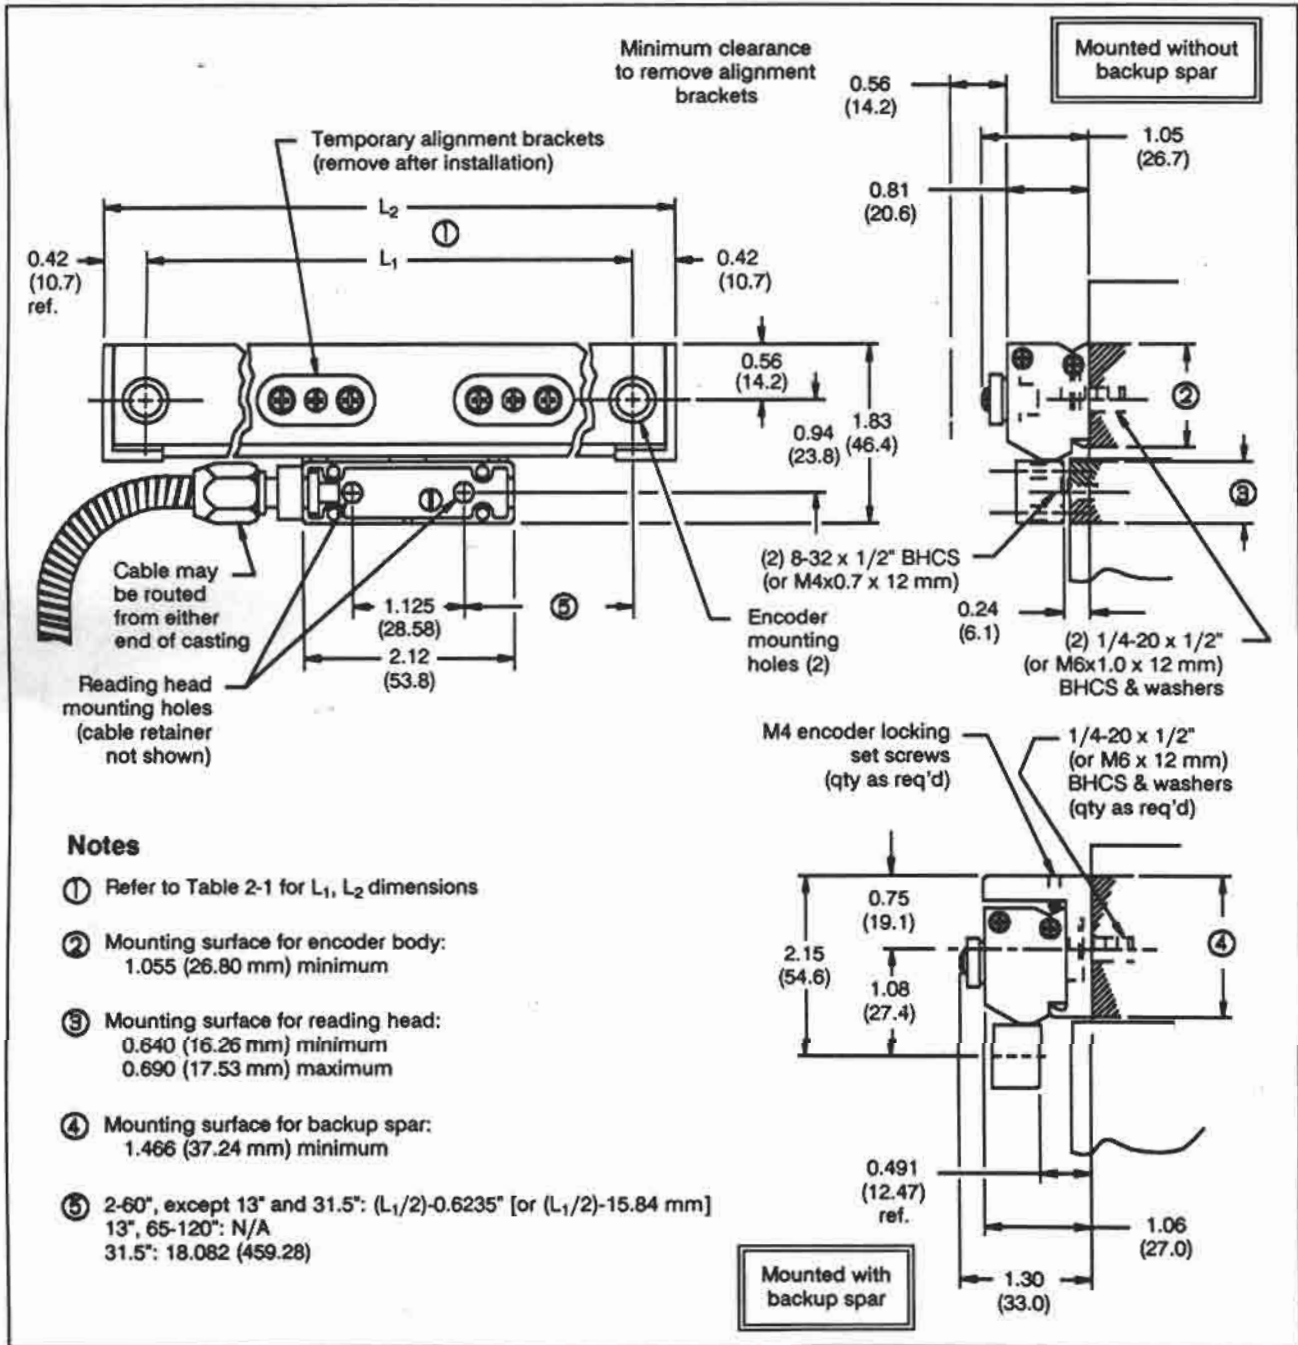

Figure 2-8. Mini-Scale or Mate System linear encoder assembly dimensions and mounting data (during installation)
- For end mounting hole/center support mountings, the encoder must be installed on a flat surface that runs the full length and width of the encoder (Figures 2-8, -9, -12, -13, Table 2-1, and Appendix D). A machined surface is preferred. The center support mounting surfaces must provide a minimum of 1.805" (45.85 mm) height and 0.500" (12.70 mm) width.
*Refer to Figure 2-8. The upper side view illustrates a typical mill longitudinal encoder mounting. The encoder is mounted directly to a machined surface of the mill table (either the front or the back of the table). Here, the shape of the saddle (cross travel casting) provides just enough clearance for the reading head adjustment and mounting. The lower side view illustrates mounting directly to the same machined surface, but using a backup spar. In this case, the reading head casting is too far from the saddle, and a reading head mounting bracket is required.*
Refer to Figures 2-8 through 2-10 and Table 2-1 for encoder and backup spar mounting dimensions. The illustrations also show the amount of clearance space that must be provided for the encoder, both during and following installation. This clearance will assure that brackets, machine tool handles, etc. will not interfere with the encoder after installation.
Most Mini-Scale and Mate System encoders less than 24" are mounted directly to a machined surface using the encoder end mounting holes (Figures 2-8 and 2-9). 24" to 60" encoders can be mounted directly to a machined surface using the end mounting holes and center support brackets (see "Center support installation").